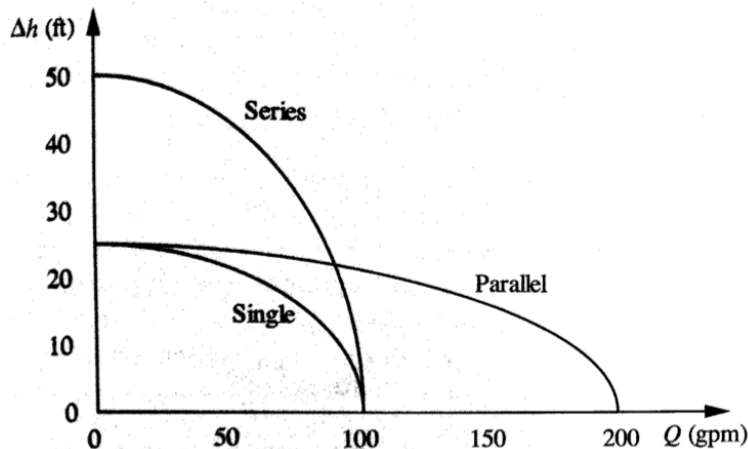

Figure 3: Performance curves for three different pump arrangements. (McCabe, Smith, and Harriott, 2001)
- Determine the frictional losses of the piping station using copper tubing in the configurations for 1", 3/4", and 1/2" (straight and coiled). The goal is to obtain the Darcy friction factor (f) for each configuration. Compare the value obtained with the Darcy friction factor generated by the Colebrook equation or any other equation for this purpose. You will need to take the restrictions and specifications for the use of these equations such as Reynolds number and piping material into account. Figure 3 depicts typical characteristic curves for centrifugal pumps in different arrangements.